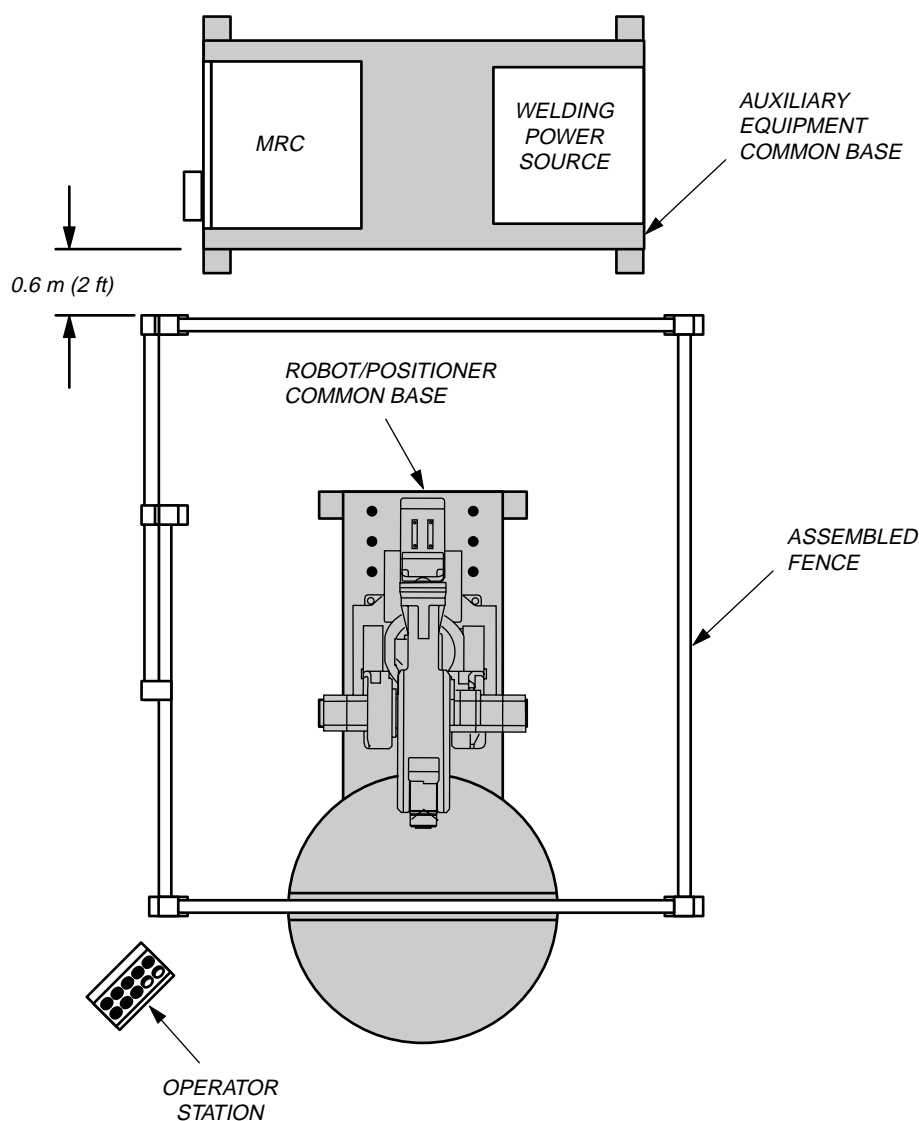

Figure 4-18 Location of the Auxiliary Equipment Common (AEC) Base
1. Unbolt the AEC base from the wooden shipping skid by removing the four shipping bolts using a 3/4-in. deep well socket (see Figure 4-18).